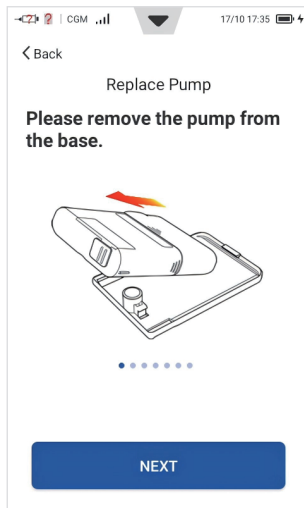

Figure 32
- a) Remove the pump and reservoir from the pump base as shown in Figure 33. Remove the old infusion set, apply a new one, and press "NEXT" (Figure 32). The next page will prompt you to deactivate your old pump.